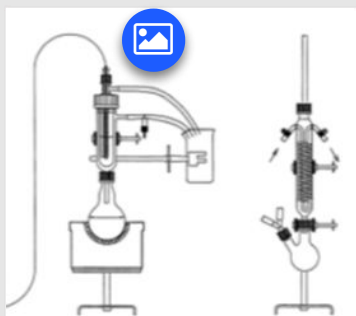

Fig. 1: Schematic illustration
2. Apart from a GL 25 threaded connector and a lateral glass tube connector, the inner vessel has a narrow glass tube inside. The inlet opening of this glass tube commences in the wall of the vessel. When assembling the two vessels, the inlet opening must be below the gasket (see Fig. 1).